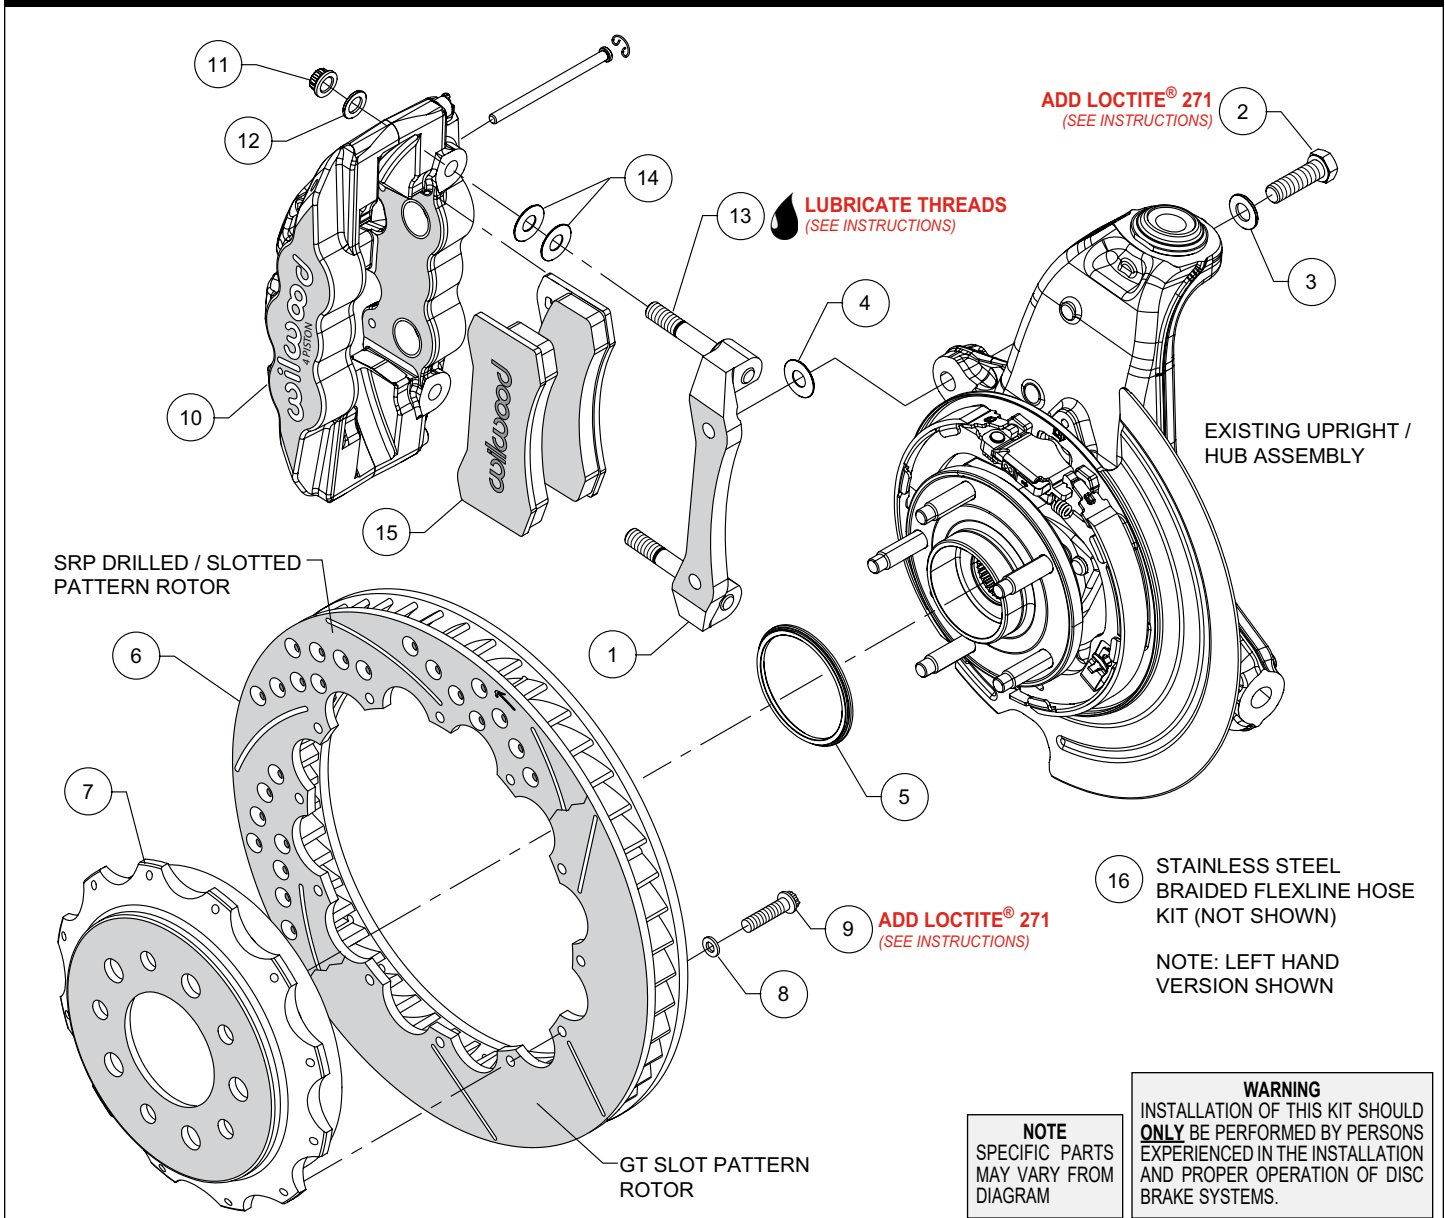
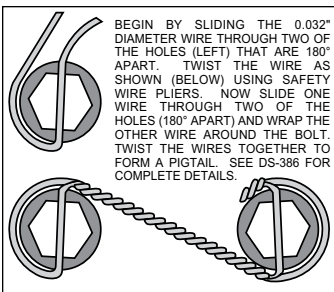

Figure 1. Typical Installation Configuration
Figure 3.
NOTE: Numbers in parenthesis refer to the parts list and Figure 1 on the preceding pages.
- The caliper mount bracket (1) should initially be installed with clean, dry threads on the mounting bolts. Orient the bracket as shown in Figure 1, and Photo 1, and install using bolts (2) and washers (3). Initially place one .033" thick shim (4) on each bolt between the bracket and upright, Figure 1. Temporarily tighten the mounting bolts. **NOTE:** *The bracket must fit squarely against the mount bosses on the upright.* Inspect for interference from casting irregularities, machining ridges, burrs, etc. Later, after the caliper alignment has been checked, the mount bolts will be secured using red *Loctite*® 271.
- Orient the rotor (6) and the hat (7) as shown in Figure 1 and Photo 2. Attach rotor to hat using bolts (9) and washers (8). Apply red *Loctite*® 271 to the bolt threads and torque to 140 **in-lb** using a criss-cross pattern. For an added measure of security, the bolts may be safety wired using standard 0.032 inch diameter stainless steel safety wire as shown in Figure 3. Please refer to Wilwood's data sheet DS-386 (available at www.wilwood.com/Pdf/DataSheets/ds386.pdf) for complete safety wire installation instructions.
- Slide the rotor registration adapter (5) onto the axle register on the axle hub with the smaller O.D. facing outward, Photo 3. Slide the hat/rotor assembly onto the axle hub. **NOTE:** *The hat must fit flush against the axle hub flange or excessive rotor run out may result.* Install three lug nuts (finger tight) to keep the hat/rotor assembly in place while continuing with the installation, Photo 4.
•**NOTE:** This kit contains distinct right and left hand calipers. The calipers must be mounted with the bleed screws pointing upward. Lubricate the caliper mounting studs (13) with lightweight oil. Initially place two .030" thick shims (14) on each stud as shown in Figure 1 and Photo 5. Mount the caliper (10) onto the bracket (1) using lock nuts (11) and washers (12), Figure 1. Temporarily tighten the lock nuts and view the rotor through the top opening of the caliper. The rotor should be centered in the caliper, Photo 6. If not, adjust by adding or subtracting shims (4) between the bracket and the upright. Always use the same amount of shims on each of the two mounting bolts. Once the caliper alignment is correct, remove the bracket mounting bolts (2) one at a time, apply red *Loctite*® 271 to the threads, and torque to 60 ft-lb.
•Remove the two pad retaining pins from the caliper (10) by carefully popping out the pin retaining clips and sliding out the pins. Insert the brake pads (15) into the caliper from the bottom, Figure 1 and Photo 7. With the friction material facing the rotor, secure the brake pads in place with the pad retaining pins and clips, Photo 8. Reinstall the caliper onto the caliper mounting bracket and temporarily tighten the lock nuts. Check that the top of the brake pad is flush with the outside diameter of the rotor, Photo 9. If not, adjust by adding or subtracting shims (14) between the caliper and the bracket. After the caliper pad height is set, torque the caliper lock nuts (11) to 47 ft-lb.